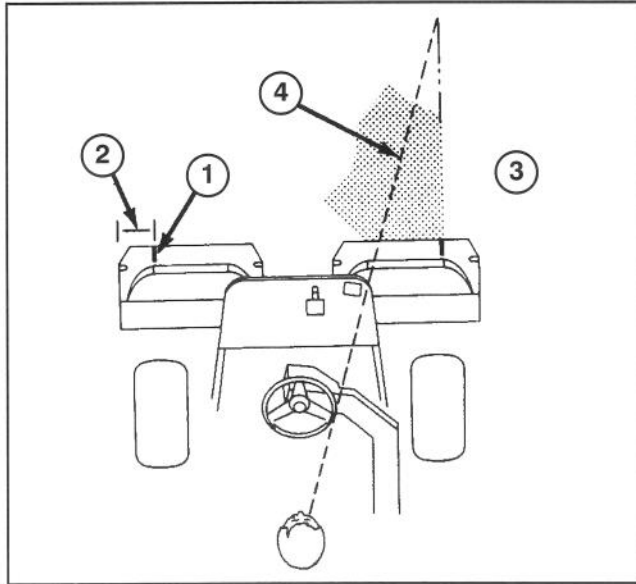

Figure 24
2. Either place a strip of white tape or paint a line onto each basket paralleling the outer edge of each basket (Fig. 24)